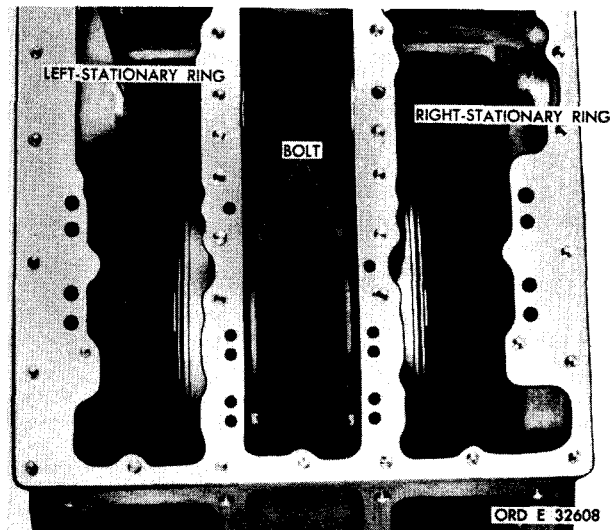

Figure 189. Top view of transmission rear housing, showing bolts which retain brake apply cam stationary rings
retain the right- and left-brake apply cam stationary rings (fig. 189).
f. Install four 3/8-24 self-locking, bolts with flat washers (fig. 189). Torque the bolts to 41-49 pound-feet.